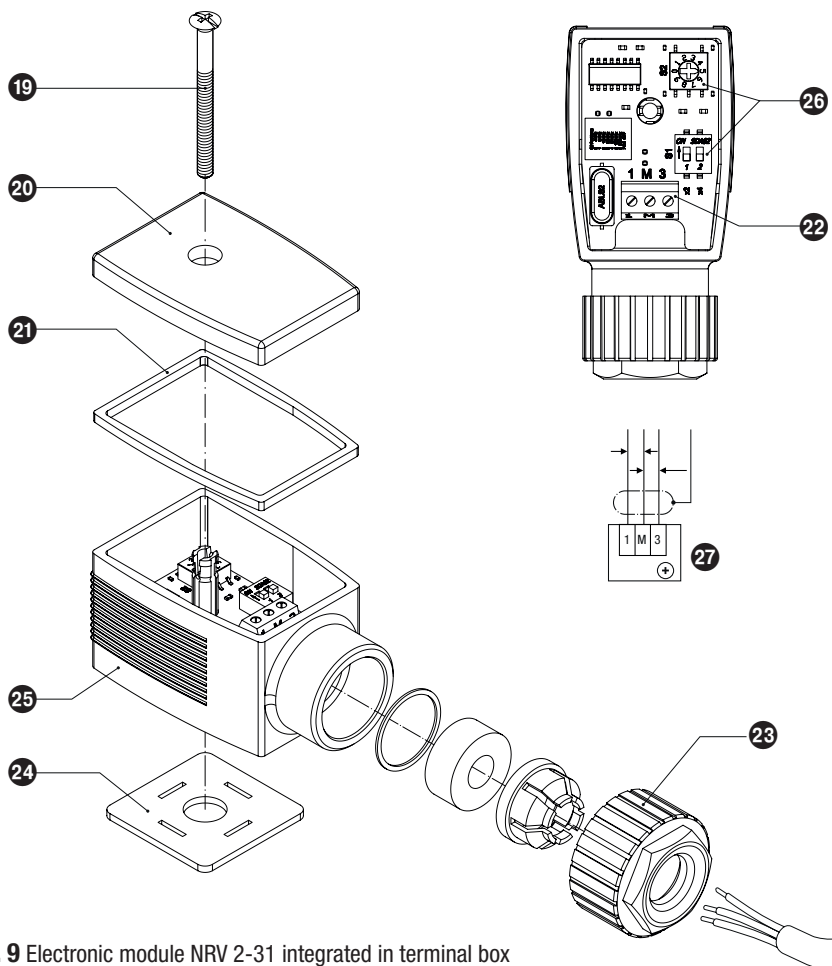

Fig. 9 Electronic module NRV 2-31 integrated in terminal box
Connect the screen only once to the central earthing point **(CEP) in the control cabinet**. Wire terminal strip in accordance with the wiring diagram. **Fig. 9**
1. Loosen screw **19**. **Fig. 9**
5. Pull cable through cable gland **23** in terminal box **25** and wire terminals **22** in accordance with wiring diagram **Fig. 9**.
Within the measuring range of the electrode you can establish the active measuring range. Use rotary code switch 28 **Fig. 9** to establish the length of the active measuring range.